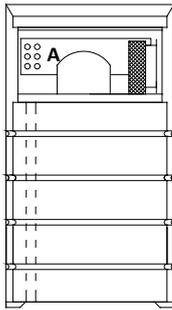

Fig. 2.3c
- Pull the connection cable through the cable tubes which run through the enclosure (A in fig.2.3c).
- Pull the cable through the cable glands (B in fig.2.3c) on the separation plate between the cool shaft and electronic compartment. Strip the cables long enough to reach the terminal.